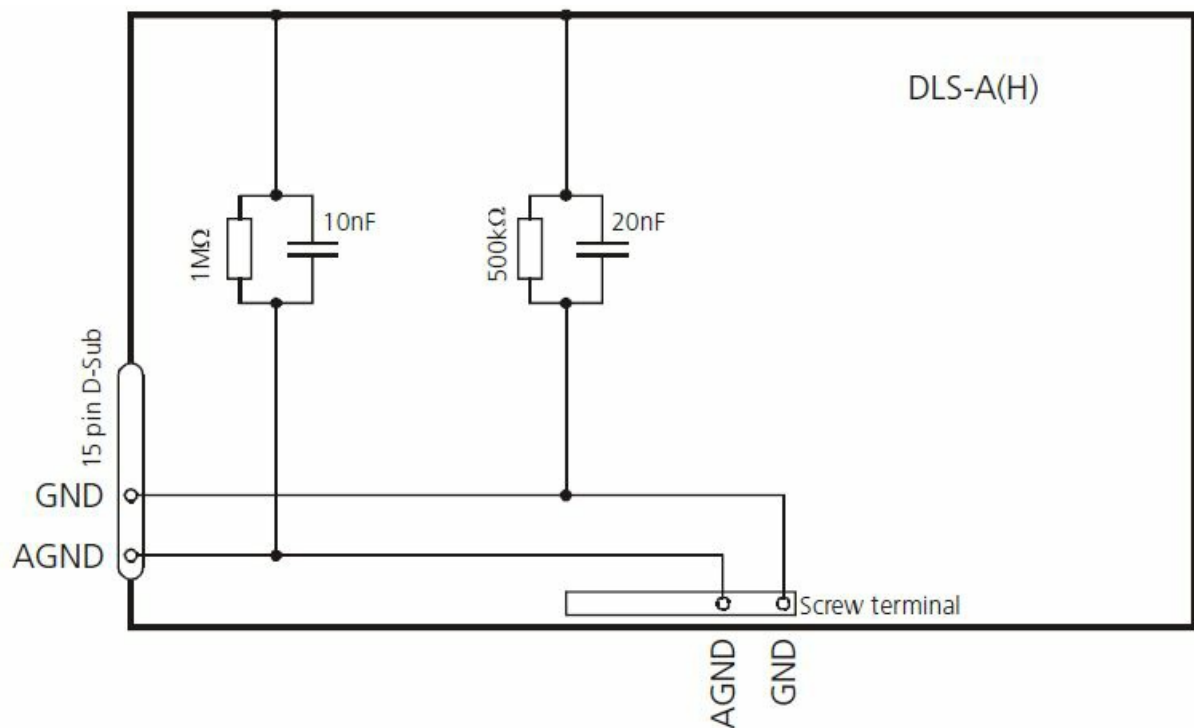

Fig. 3 Connection between shield and ground
The DLS-A(H) contains two electrical isolated grounds, the general ground (GND) and the analog ground (AGND). GND and AGND are connected to the housing by an RC element. Please see figure 3